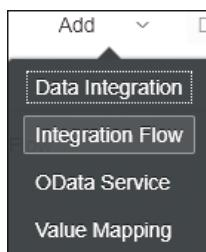
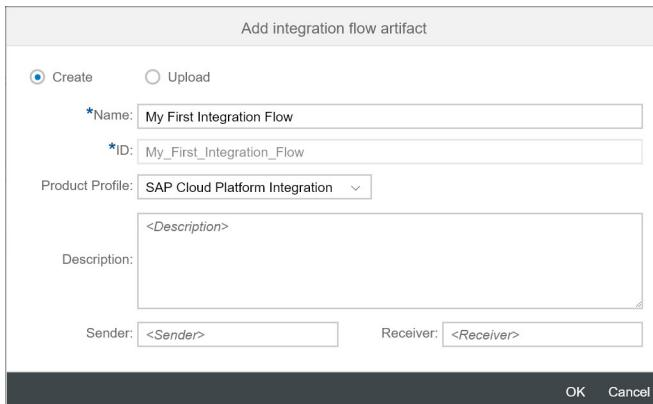

Figure 2.19 Artifact Types You Can Select When Creating Integration Content
Figure 2.20 Creating an Integration Flow
5. Select the **Artifacts** tab, click on **Add**, and select **Integration Flow** (see Figure 2.19). As a result, the **Add process integration flow artifact** dialog box shown in Figure 2.20 opens.
In the dialog box shown in Figure 2.20, make sure the **Create** radio button is selected, and enter a name for the integration flow in the **Name** field.
The **Upload** option (next to the **Create** option in Figure 2.20) allows you to upload an integration flow file from your computer to the Web UI.